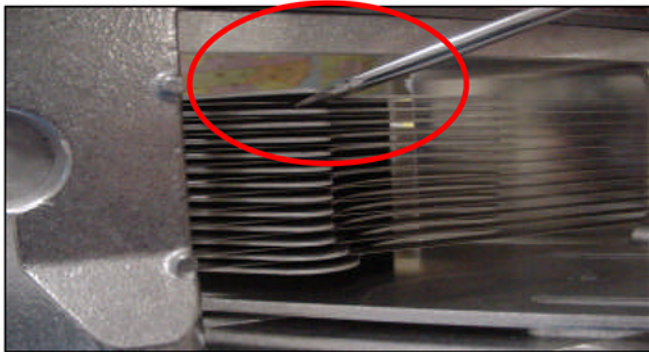

Figure 4
11. Using a flat-head screwdriver, bend the Pusher Head Plate either up or down, depending on the location of the blade (See figure 4).